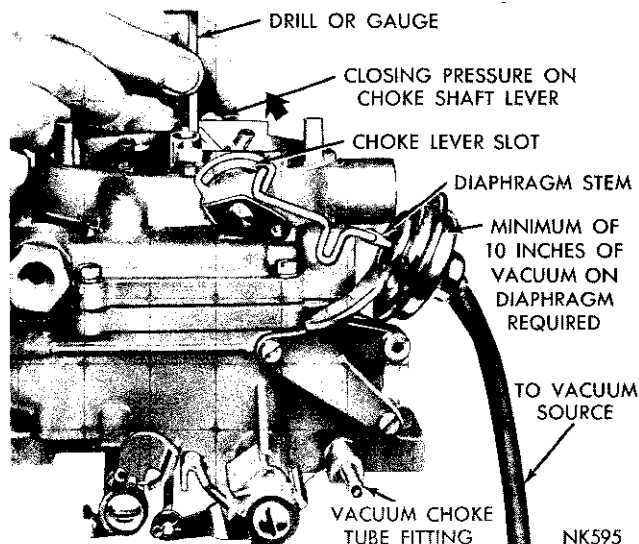

Fig. 14—Checking the Choke Vacuum Kick Setting
(1) With the engine **Not** running, open the throttle valves far enough to allow the choke valve to be moved to the closed position.
(2) Disconnect the vacuum hose from the diaphragm and connect the hose from the vacuum supply, as shown in (Fig. 14). (A minimum of 10 inches of vacuum) will be required.
(3) Insert the specified drill between the choke valve and the wall of the air horn. Refer to (Fig. 14). Apply sufficient closing pressure on the choke shaft lever to provide the smallest choke valve opening possible without distortion of the diaphragm link. Note that the cylindrical stem of the diaphragm will extend as an internal spring is compressed. The spring must be fully compressed for proper measurement of the kick adjustment.
(4) An adjustment will be necessary if a slight drag is not obtained as the drill or gauge is being removed.
(7) Install the choke operating link and recheck the choke valve opening, using a drill or gauge. Refer to (Fig. 14).